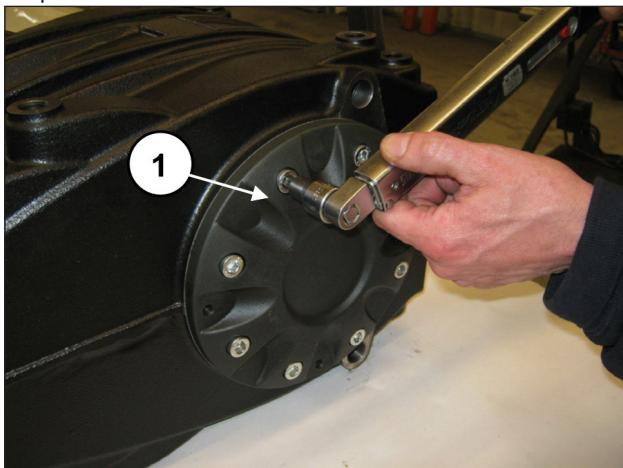

Fig. 60
Tighten the 8 M10x30 screws (pos. ①, Fig. 60).